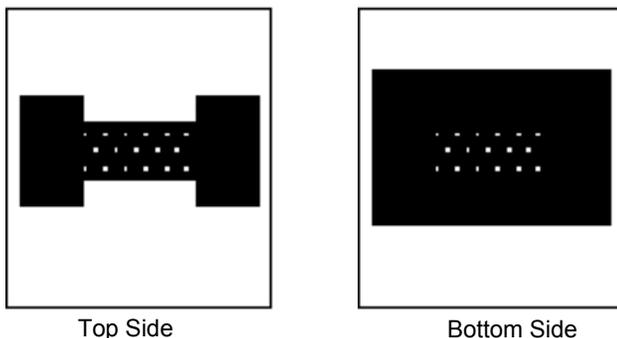
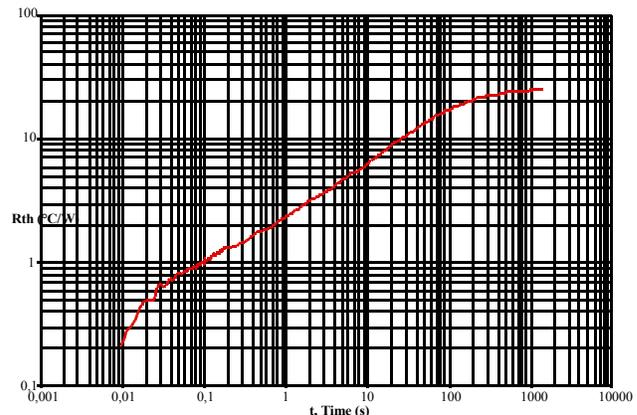

Figure 19. PCB Test Layout
Figure 20. 33887 Thermal Response, HSOP Package
**Example** Characterization on a double-sided PCB: bottom side area of copper is 7.8 cm2; top surface is 2.7 cm2 (see Figure 19); grid array of 24 vias 0.3 mm in diameter.
Figure 20 shows the thermal response with the device in the HSOP package soldered on to the test PCB described in Figure 19.